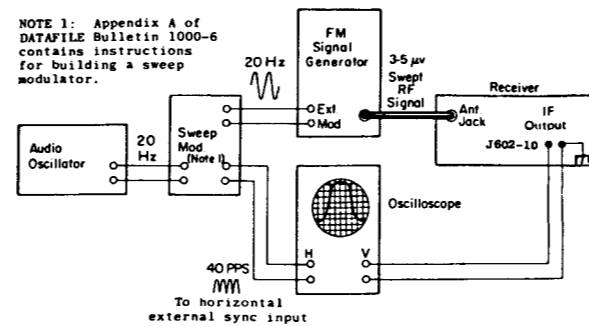

Figure 7 - Test Setup for 20 Hz Double-Trace Sweep Alignment
1. Attach an oscilloscope probe to IF AMP. MTR. (J602-10). (Refer to Figure 7).